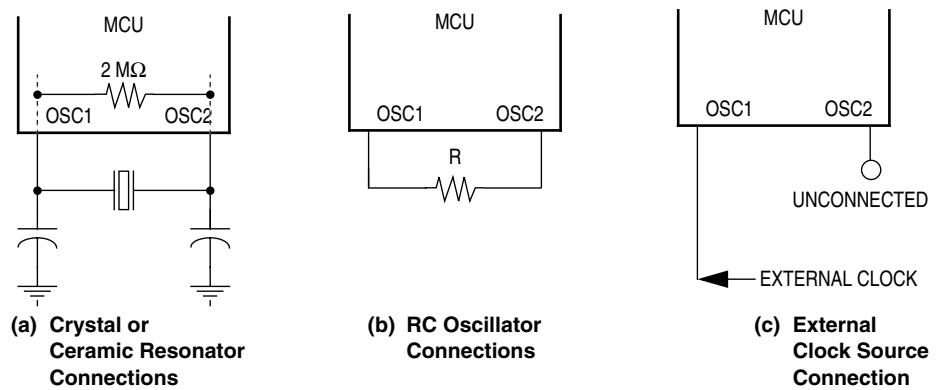

Figure 1-3. EPO Oscillator Connections
1. A crystal as shown in Figure 1-3 \(a\)
2. A ceramic resonator as shown in Figure 1-3 \(a\)
3. An external resistor as shown in Figure 1-3 \(b\)
4. An external clock signal as shown in Figure 1-3 \(c\)
The circuit in **Figure 1-3 (a)** shows a typical oscillator circuit for an AT-cut, parallel resonant crystal. The crystal manufacturer's recommendations should be followed, as the crystal parameters determine the external component values required to provide maximum stability and reliable startup. The load capacitance values used in the oscillator circuit design should include all stray capacitances. The crystal and components should be mounted as close as possible to the pins for startup stabilization and to minimize output distortion. An internal startup resistor of approximately 2 MΩ can be provided by the shunt resistor mask option between OSC1 and OSC2 for the crystal type oscillator. The crystal configuration is enabled by choosing the crystal selection in the oscillator connections mask option.
In cost-sensitive applications, a ceramic resonator can be used in place of the crystal. The circuit in **Figure 1-3 (a)** can be used for a ceramic resonator. The resonator manufacturer's recommendations should be followed, as the resonator parameters determine the external component values required for maximum stability and reliable starting. The load capacitance values used in the oscillator circuit design should include all stray capacitances. The ceramic resonator and components should be mounted as close as possible to the pins for startup stabilization and to minimize output distortion. An internal startup resistor of approximately 2 M Ω can be provided by the shunt resistor mask option between OSC1 and OSC2 for the ceramic resonator type oscillator. The ceramic resonator configuration is enabled by choosing the crystal selection in the connections oscillator mask option.
The lowest cost oscillator is the RC oscillator configuration where a resistor is connected between the two oscillator pins as shown in **Figure 1-3 (b)**. The internal startup resistor of approximately 2 M Ω is not recommended between OSC1 and OSC2 for the RC-type oscillator.
An external clock from another CMOS-compatible device can be connected to the OSC1 input, with the OSC2 input not connected, as shown in **Figure 1-3 (c)**. This configuration is possible regardless of whether the crystal/ceramic resonator or RC oscillator configuration is used.